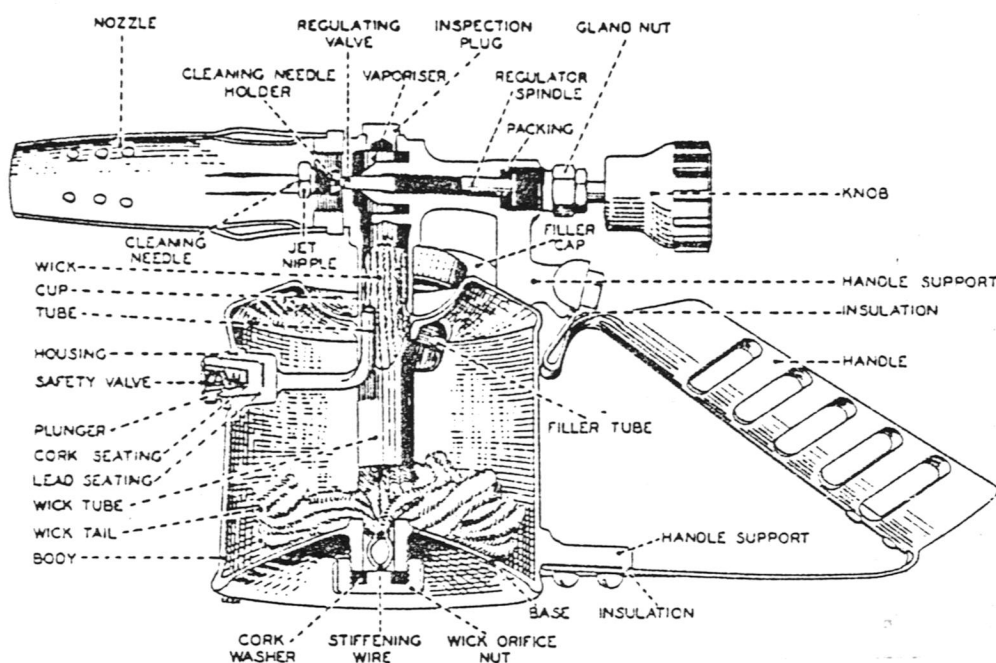

FIG. 2.—LAMP, TORCHBLOWING, No. 1
4. Lamp, Torchblowing, No. 1.—Fig. 2 shows a